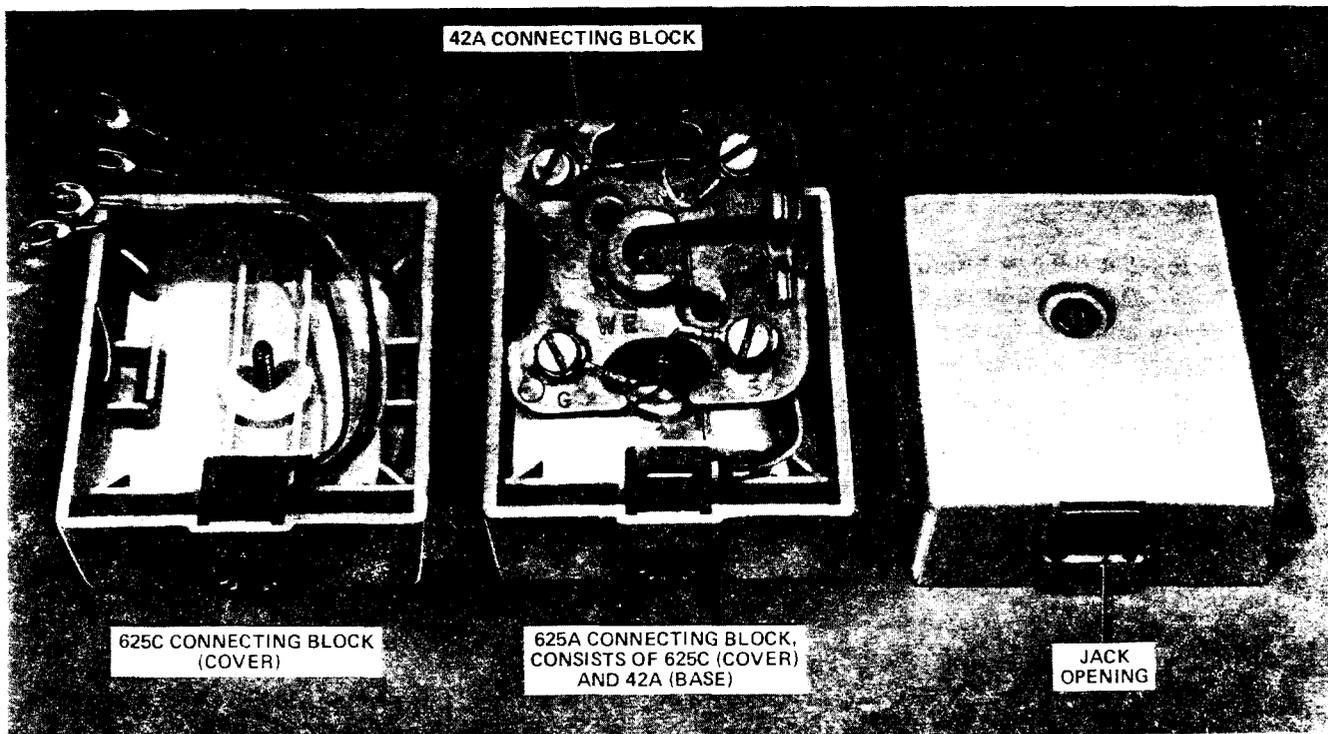

Fig. 1—625A Connecting Block
- Block, Connecting, 625A (Fig. 1)
A. 625A Connecting Block (Fig. 1)
2.03 The 625A connecting block (Fig. 1) is intended for new installations. It is surface mounted. It consists of a 42A connecting block (base) and a 625C connecting block (cover). The 42A contains four screw terminals and is intended to terminate inside wire and spade-tipped jack leads. It is available in
(a) **Surface-Type:** Should be mounted with jack opening at bottom of connecting block (Fig. 1). Where a 42-type connecting block is mounted on a narrow baseboard, opening may have to be to left or right. Where practical and permissible, mount connecting block approximately 12 inches above floor (about electrical outlet height) for easier jack-plug orientation and less possibility of trouble due to contamination. This is the preferred location. These connecting blocks may be mounted on all types of surfaces. Backboards should be used only when mounting on damp surface or when the use of a backboard will facilitate installation. Avoid mounting areas which will cause trouble e.g. near or under windows, behind curtains, and furniture. Provide long mounting cords rather than mounting the connecting block in trouble areas. Mount where they are easily accessible to the customer and the telephone company for maintenance.
(cover) jack leads as shown in Fig. 1. Fasten the cover to the base to complete the installation.
3.04 625C Connecting Block: Remove cover (nonmodular) from existing 42A connecting block. Connect the 625C connecting block (cover) jack leads to the screw terminals on the 42A connecting block. Dress all leads away from cover mounting screw (Fig. 1).